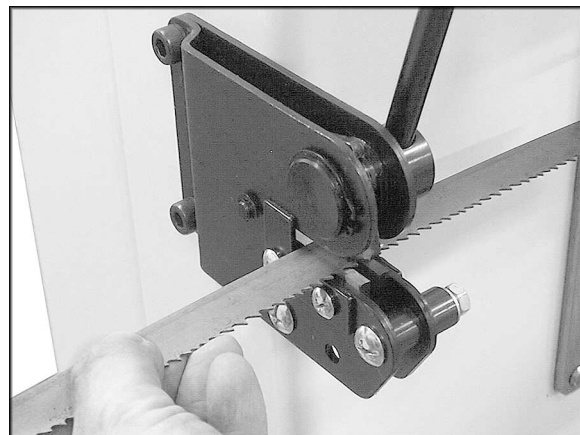

Figure 15
1. Place the blade in the shear as shown in Figure 15. Make sure the blade is held square with the shear knife, so that the cut will be square with the blade.